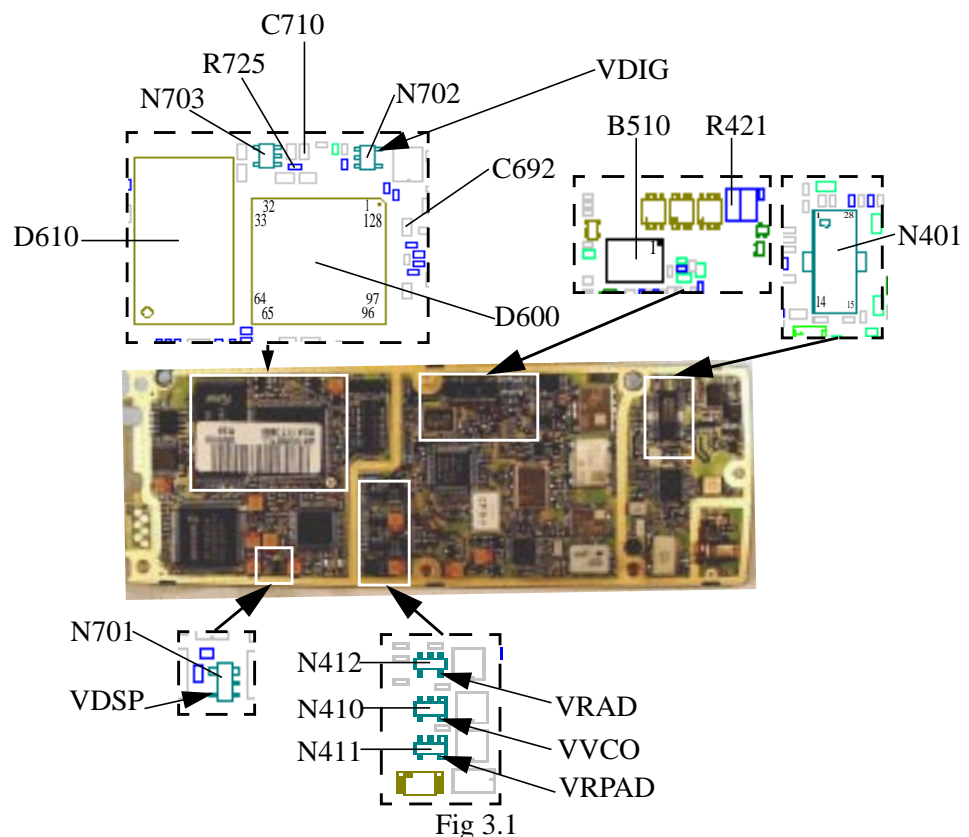
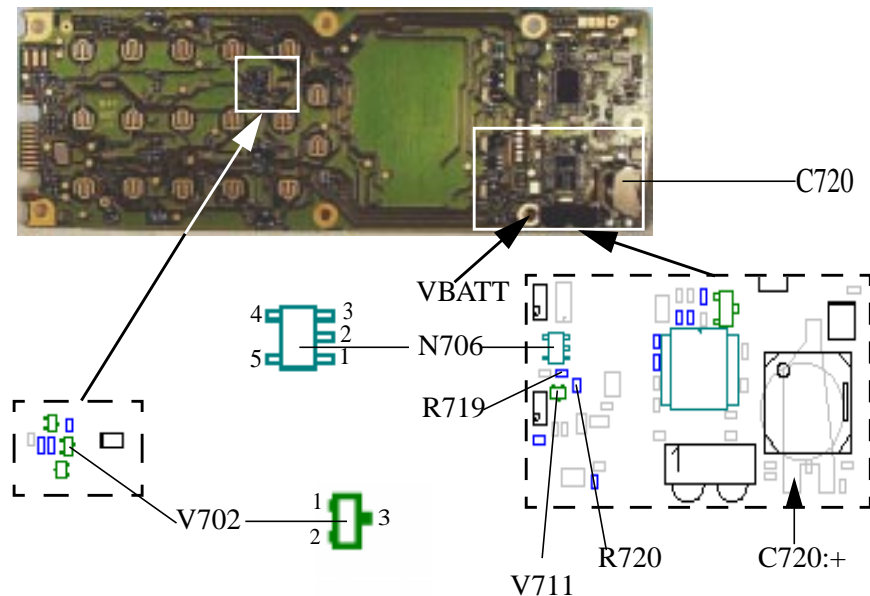
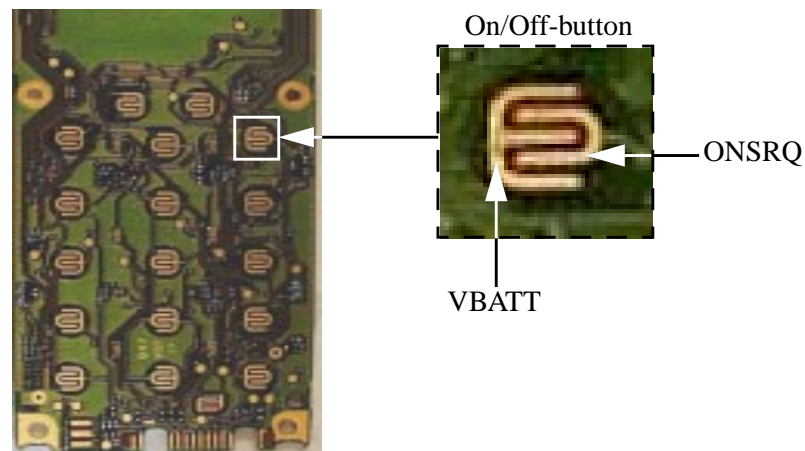

Fig 3.1
Fig. 3.2
Fig. 3.3
Attach a fully charged battery and press the On/Off-button. If the phone doesn't start, proceed to section 3.2. If the phone starts as normal when it is complete, but shuts down in the trouble-shooting fixture, measure the current consumption. If it is >1.5 A or as high as the current limit on the power supply, then N401 (class D, fig 3.1) is faulty and the phone can't be repaired at this repair level. (Measure the resistance between N401:14 and ground, it should be >10 kOhm, but if N401 is faulty it usually is about 200 Ohm).
If the phone starts, check the charging function by connecting a charger at the system connector. If the charging doesn't work, proceed to chapter 6 ("Charging"-fault). Open the phone and make a visual check of the board. The side with the components are shown in fig 3.1. Check the board for liquid damages and burned or damaged pads at the system connector. Measure the resistance of R421 (0,1 Ohm, class B, fig 3.1). **After every repair of the charging function, you have to verify the function using the method mentioned in section 6.1.1.** Check the solderings on D600 and D610 (Fig 3.1). As soon as the fault has been corrected, send the phone back into the normal repair flow. If the phone starts and the values above are correct, it is either without faults or there is an intermittent fault.
- * If the phone starts after programming it the fault is probably fixed, but to eliminate the possibility of intermittent faults, check the board for liquid damages or bad solderings at D600 and D610 (Fig 3.1).
Open the phone and check for liquid damages. Make sure the system connector pads are not burned or damaged. Measure the resistance of R421 (0,1 Ohm, class B, fig 3.1). **After every repair of the charging function, you have to verify the function using the method mentioned in section 6.1.1.** Attach the board to the fixture. Keep the board powered up with high DCIO. Check VDIG and VDSP (3.2 V, Fig 3.1). If any of the voltages are too low, measure the resistance to ground (VDIG >500 Ohm, VDSP >25 kOhm). If the resistance is correct, replace the corresponding circuit (VDIG - N702, class A and VDSP - N701, class A, fig 3.1). If the resistance is too low, send the phone to the next repair level. If any of the voltages are too high, replace the corresponding circuit. Check Powerreset (PWRRST) at C710 (>3 V, Fig 3.1). If it is lower, measure the resistance of R725 (100 kOhm, class A, fig 3.1). Is the resistance correct, replace C710 and N703, (both class A, fig 3.1.) Measure the voltages on VRAD, VVCO and VRPAD (3.8 V, fig 3.1). If one or more voltages are incorrect, measure the resistance to ground (>50 kOhm). If the resistance is correct,
replace the corresponding regulator (fig 3.1, all are class A). If the resistance is too low, send the phone to the next repair level.
Check the amplitude on the “clock” B510:1 (~1v t-t, class C, fig 3.1). Measure the amplitude using an oscilloscope, spectrum analyzer, frequency counter, diode prob... If the amplitude is too low, send the phone to the next repair level. Check the solderings on D600 or D610 (fig 3.1). If they are fine and it is sure B510 is okay, then replace D600 (class B) and D610 (class A). Try to programme it in the flash programmer between each exchange.
Open the phone and check for liquid damages. Make sure the system connector pads are not damaged or burned. Measure the resistance of R421 (0,1 Ohm, class B, fig 3.1). **After every repair of the charging function, you have to verify the function using the method mentioned in section 6.1.1.** Attach the board to the fixture. Keep it powered up with DCIO high. Check VDIG and VDSP (3.2 V, fig 3.1). If any of the voltages are too low, measure the resistance to ground (VDIG >500 Ohm, VDSP >25 kOhm). If the resistance is correct, replace the corresponding circuit (VDIG - N702 (class A) and VDSP - N701 (class A)). If the resistance is too low, send the phone to the next repair level. If any of the voltages are too high, replace the corresponding circuit. Check Powerreset (PWRRST) at C710 (>3 V, Fig 3.1). If it is lower, measure the resistance of R725 (100 kOhm, class A, fig 3.1). If it is correct, replace C710 and N703, (both are class A, fig 3.1). Measure the voltages on VRAD, VVCO and VRPAD (3.8 V, fig 3.1). If one or more of the voltages are oncorrect, measure the resistance to ground (>50 kOhm). If the resistance is correct, replace the corresponding regulator (fig 3.1, all are class A) . If the resistance is too low, send the phone to the next repair level. Check the solderings on D600 or D610 (fig 3.1). If they are fine, replace D610 (class A) and D600 (class B). Try to program the phone in the flash programmer between each exchange.
Open the phone and check for liquid damages. Make sure the system connector pads are not damaged or burned. Attach the board to the fixture. Keep it powered up with DCIO high. Check the current consumption again, if it uses less than 200 mA, make sure the gasket in the frame is fine, if it is change the display and the elastomer. Measure the resistance between VBATT and ground. It should be larger than 1M Ω , if it is lower send the phone to the next repair level. Check VDIG and VDSP (3.2 V, fig 3.1). If any of the voltages are too low, measure the resistance to ground (VDIG >500 Ω , VDSP >25 k Ω). If the resistance is correct, replace the corresponding circuit (VDIG - N702 (class A) and VDSP - N701 (class A)). If the resistance is too low, send the phone to the next repair level. If any of the voltages are too high, replace the corresponding circuit. Measure the voltages on VRAD, VVCO and VRPAD (3.8 V, fig 3.1). If one or more of the voltages are incorrect, measure the resistance to ground (>50 k Ω). If the resistance is correct, replace the corresponding regulator (fig 3.1, all are class A). If the resistance is too low, send the phone to the next repair level.
Open the phone and check for liquid damages. Make sure the system connector pads are not damaged or burned. Attach the board to the fixture. Keep it powered up with DCIO high. Measure the voltage on C692 (>3.0 V, fig 3.1). If there is a voltage, check the soldering at D600:119 (fig 3.1). If there isn't a voltage, check the resistance of C692 (>200 k Ω , class A). If the resistance is correct, measure the input voltage on N706:2 (VBATT, fig 3.2) and the output voltage N706:3 (3.5 V). Make sure the ground of the regulator exist on N706:1. If VBATT or ground is missing, the board has to be discarded. If they are correct, replace N706 (class A). If the output voltage is correct, measure the voltage to ground on the backup capacitors plus side C720 (3.1 V, class A, fig 3.2). If there are no voltage, measure the resistances over R720 (180 k Ω , class A, fig 3.2) and R719 (47 k Ω , class A, fig 3.2). Are they correct, replace V711 (class A, fig 3.2). If the output voltage is correct, measure the resistance between the plus side of C720 (fig 3.2) and C692 (fig 3.1), it should be approximately 0 Ω . If the resistance is too high, is there a foil damage and the phone has to be discarded. If the fault still remains, send the phone to the next repair level.
Open the phone and check for liquid damages. Make sure the system connector pads are not damaged or burned. Make sure the keyboard and the keyboard pads are clean and not damaged, especially the On/Off-button (fig 3.3).
Give the board power. Make sure VBATT exists one the marked side of the On/Off-button (fig 3.3), if it doesn't, is there a foil damage and the phone has to be discarded. If it exists, measure the resistance from the other side of the On/Off-button, marked with ONSRQ in fig 3.3, to V702:1 (fig 3.2). It should be approximately 0 Ohm, if it is larger is there a foil damage and the board has to be discarded. Otherwise replace V702 (class A). If the fault remains, send the phone to the next repair level.